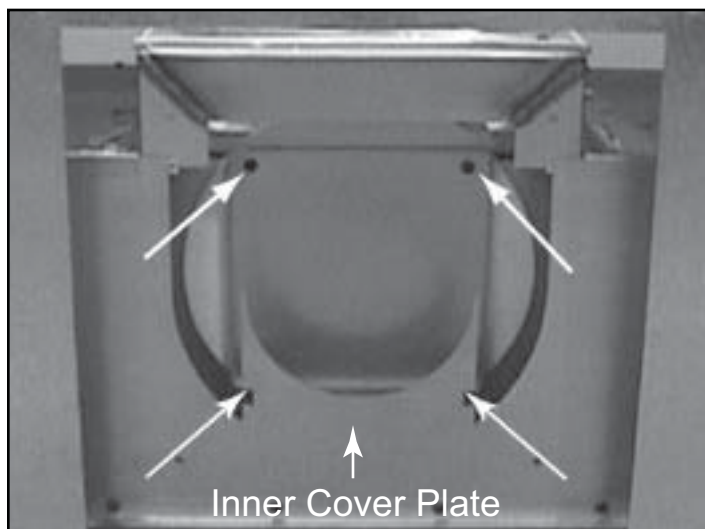
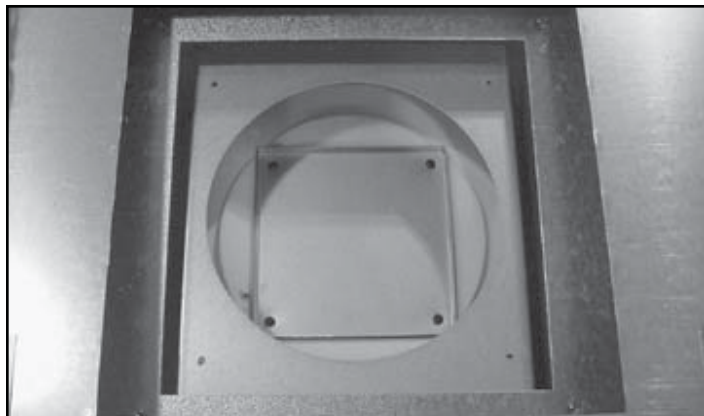

Figure 7.8 Remove Inner Cover Plate
Figure 7.12 Place Inner Cover Plate on Top of Appliance.
- Remove four screws holding the inner cover plate to the appliance back. See Figure 7.8. Remove the inner cover plate and white gasket.
- Place the inner cover plate and white gasket (removed in Figure 7.8) on the appliance top. Place four screws to hold the inner cover plate in place. See Figure 7.12.